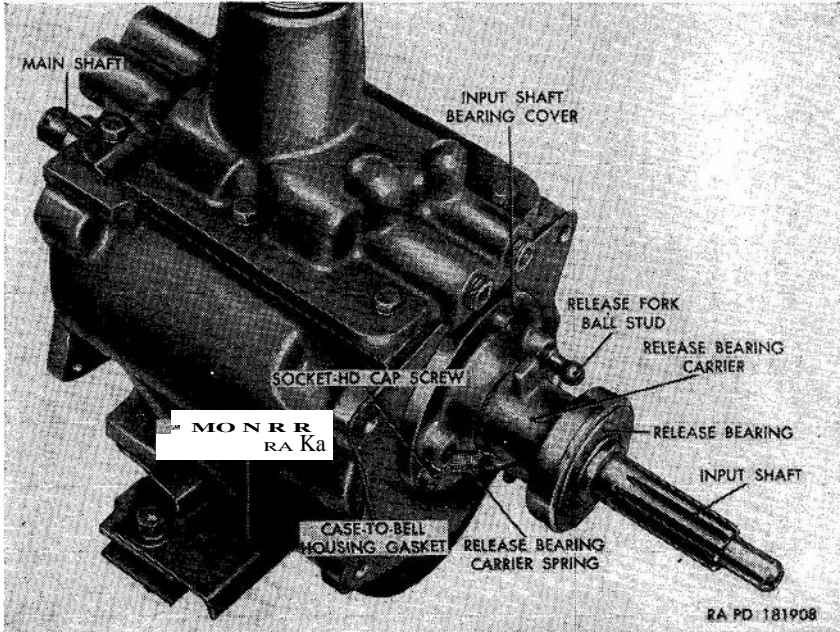

Figure 124. Transmission removed from power plant.
e. Disconnect the release bearing carrier spring (fig. 124) from the transmission input shaft bearing cover. Slide the release bearing carrier and release bearing off the input shaft. Remove the release fork ball stud from the bearing cover.
f. Remove the three socket-head cap screws and gaskets securing the input shaft bearing cover (fig. 124) to the front face of the transmission. Slide the cover off the input shaft and remove the case-to-bell housing gasket. Discard gasket.
a. Position the engine rear mounting bracket (fig. 124) on the bottom of the transmission. Secure the bracket to the transmission with four  $\frac{3}{8}$ -inch lockwashers and  $\frac{3}{8} \times \frac{5}{8}$  bolts.
b. Coat a new case-to-bell housing gasket (fig. 124) with plastic-type gasket cement. Position the gasket against the front face of the transmission, aligning the gasket holes with the transmission holes. Slide the transmission input shaft bearing cover over the shaft and into position against the gasket. Secure the cover and gasket to the transmission with three  $\frac{5}{16}$ -inch screw gaskets and  $\frac{3}{16} \times \frac{11}{4}$  socket-head cap screws.
c. Slide the release bearing carrier (fig. 124) and release bearing on to the input shaft, making certain to position the two flanges vertically as shown in figure 124. Connect the release bearing carrier spring to the bearing cover on the transmission. Install the release fork ball stud in the bearing cover hole.